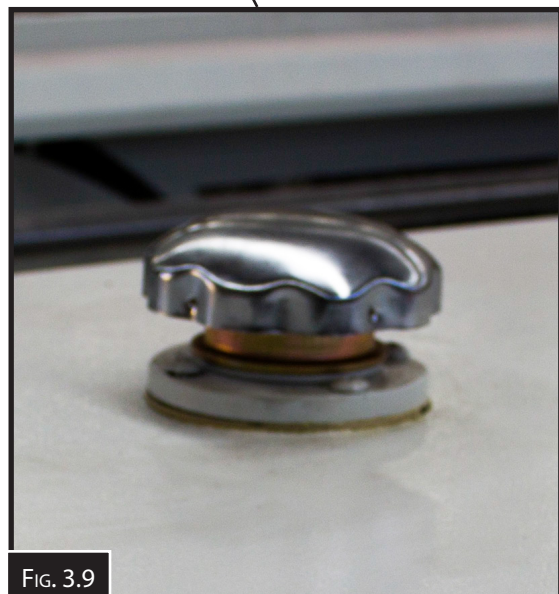

FIG. 3.9
- Remove the oil tank filler cap. (Fig 3.9)